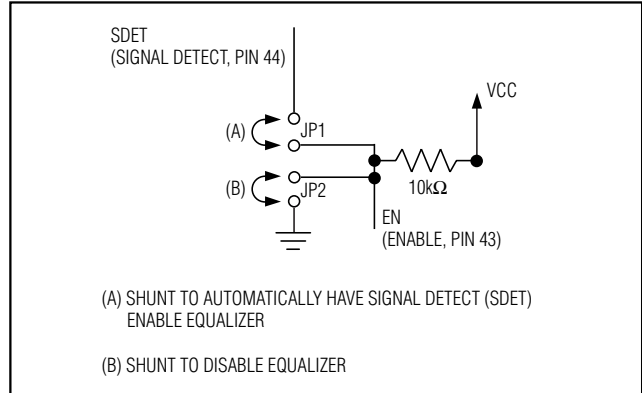

Figure 1. Control Functions
- 7) The enable (EN) signal is available at JP2. It is pulled high with a 10kΩ resistor on the EV board so no other pullup is necessary. To disable the equalizer, connect shunt (B) as shown in Figure 1. Otherwise, remove the shunt.
- 8) The SDET pin, as shown in Figure 1, indicates the presence of a signal. When a shunt (A) is connected to JP1, the equalizer will automatically be enabled when a signal is detected. Otherwise, remove the shunt.